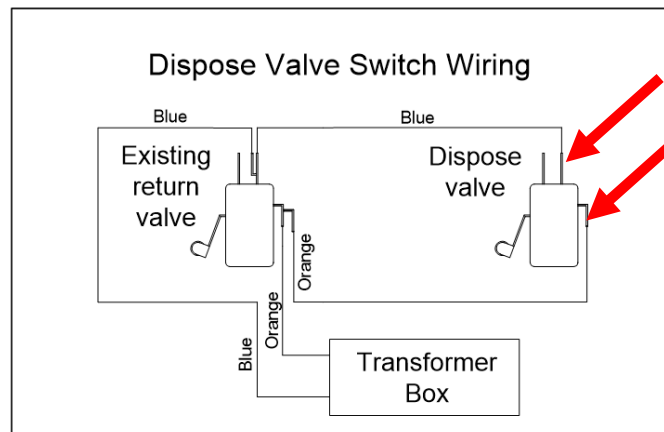

Figure 5
12. Attach the orange and blue wires from one end of the included harness to the switch on the dispose assembly. Ensure the wires are attached to the two rear terminals on the switch as shown on the wiring diagram (see Figure 5).